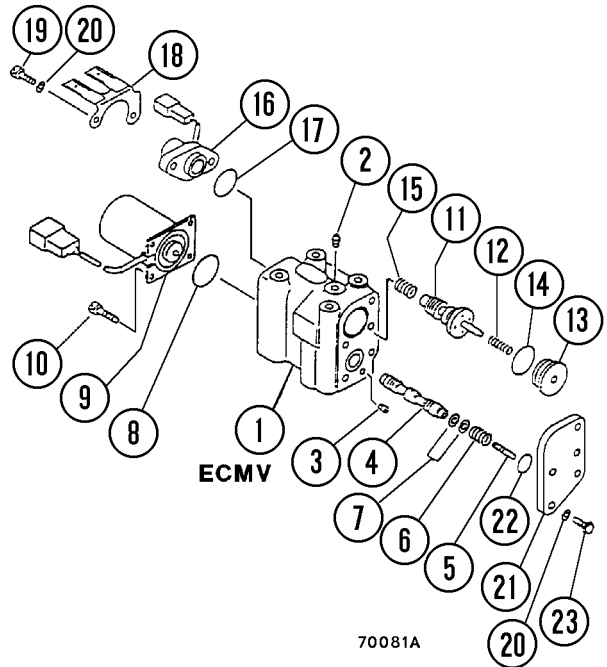

FIGURE 2-38. ECMV ASSEMBLY
1. Remove the paint along the boundary between the fill switch assembly (16, Figure 2-38) and the valve body (1) at each ECMV to be removed.
2. Disconnect the electrical connectors for the fill switch assembly (16) and solenoid valve (9) from the harness.
3. Remove the switch and solenoid connectors from bracket (18).
4. Remove cover plate (21, Figure 2-38). Remove plug (13) by installing a capscrew in the tapped hole for easier removal. Then, remove the flow detecting valve spring (12), valve spool (11), and spring (15).
- a. Examine valve body (1) and spool (11) as well as spring (15) for the existence of plating film pieces and other metallic particles. If found, remove them.
5. Remove spring (6), shims (7), piston (5), and valve (4) from the pressure control valve. Examine for any trapped foreign matter, seized spool, or rough movement. Be careful not to lose shims (7). Keep shims in storage, after confirming their quantity.
6. Remove the proportional solenoid valve (9).